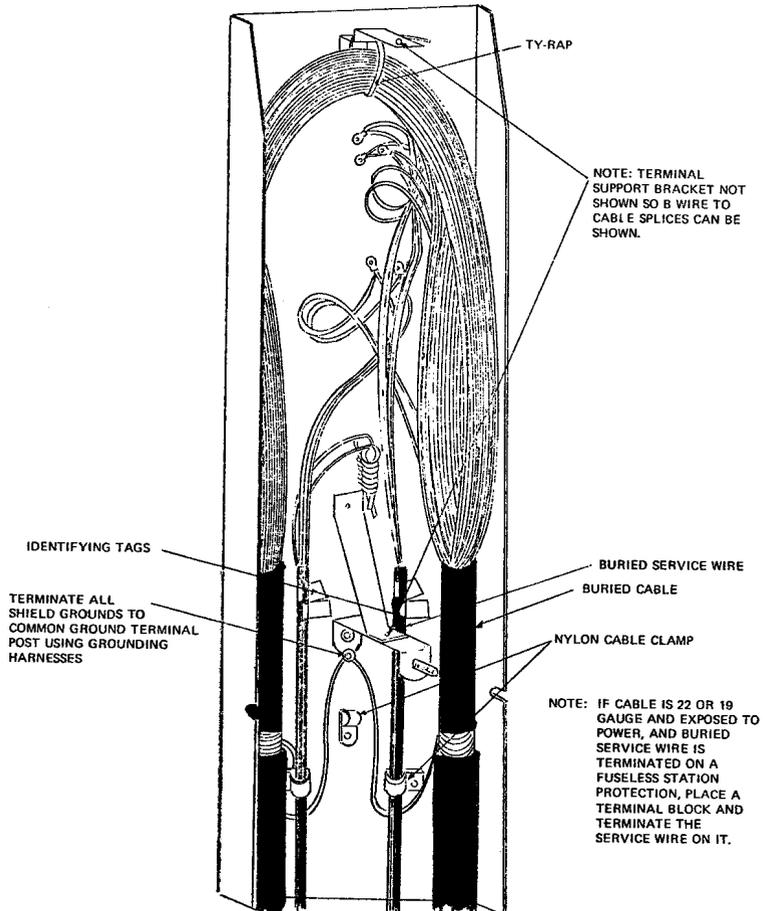

FIGURE 6. B Service Wire Terminated in an F-4 Pedestal Mounting
4.08 The termination of buried service wire in an F-4 type pedestal mounting is illustrated in Figure 6.